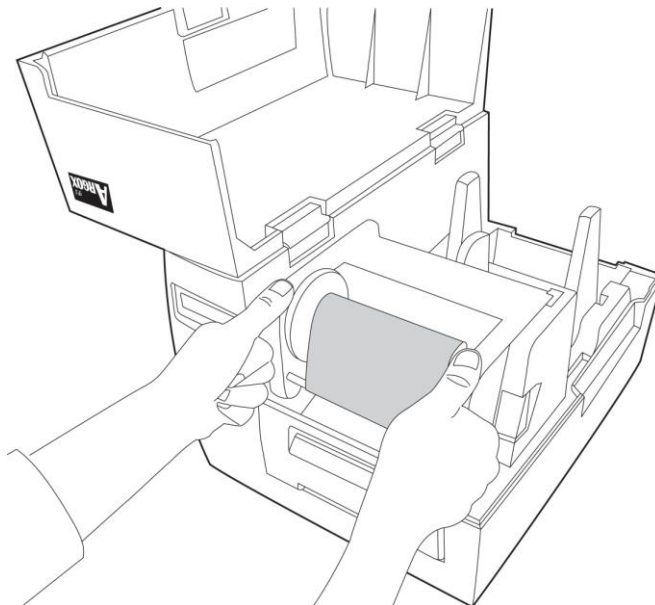

Figure 9
8. Press down the print head module firmly on both sides till you hear a snap. (Figure 9)